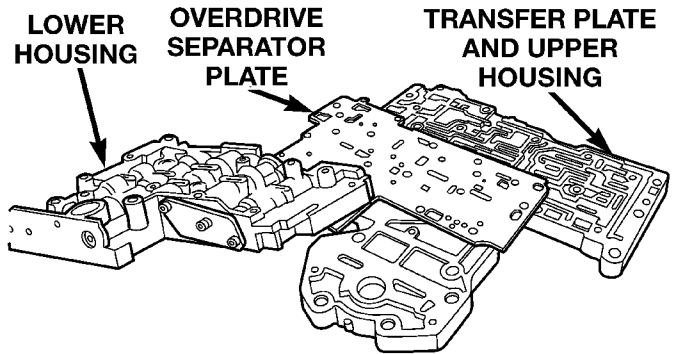

Fig. 65 Lower Housing
(29) Turn valve body over so lower housing is facing upward (Fig. 65). In this position, the two check balls in upper housing will remain in place and not fall out when lower housing and separator plate are removed.
(30) Remove screws attaching valve body lower housing to upper housing and transfer plate (Fig. 65). **Note position of boost valve tube brace for assembly reference.**
(31) Remove lower housing and overdrive separator plate from transfer plate (Fig. 65).